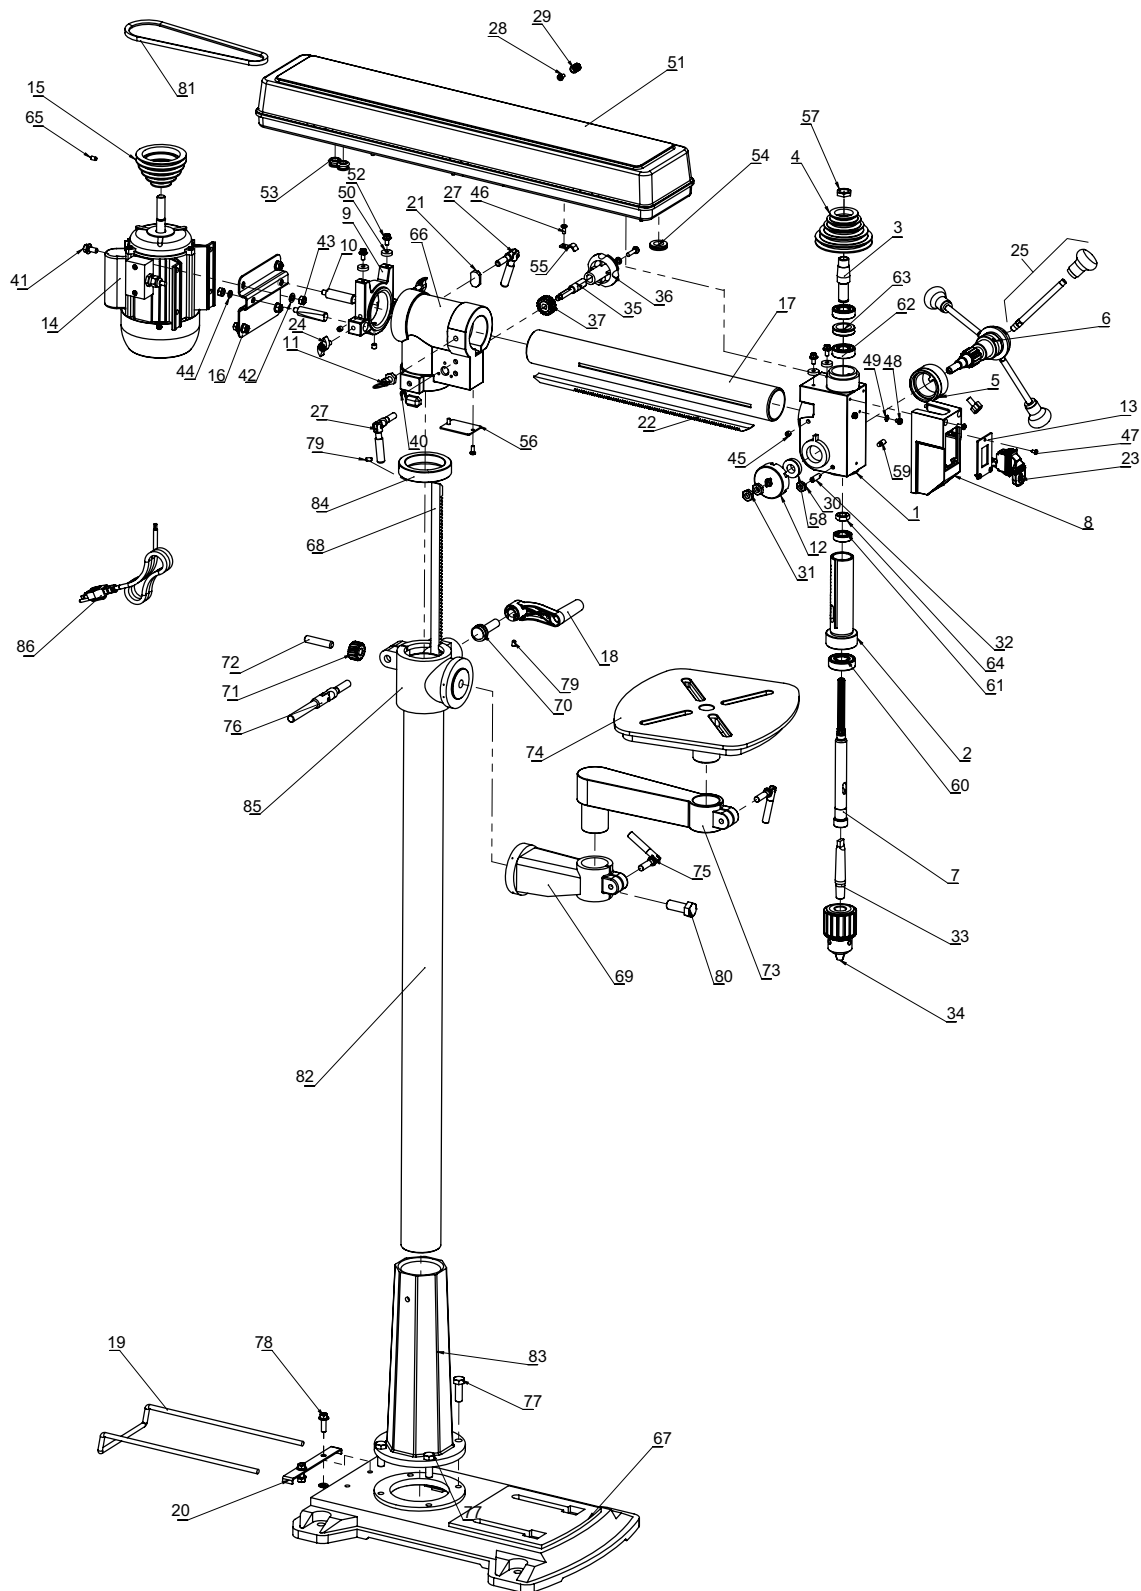

Figure 23 – Replacement Parts Illustration for Model 9680342C Floor Drill Press
- Apply lubricant to rack and pinion gear (Figures 23 and 24, Ref. Nos. 11 and 22) on column and table assembly.